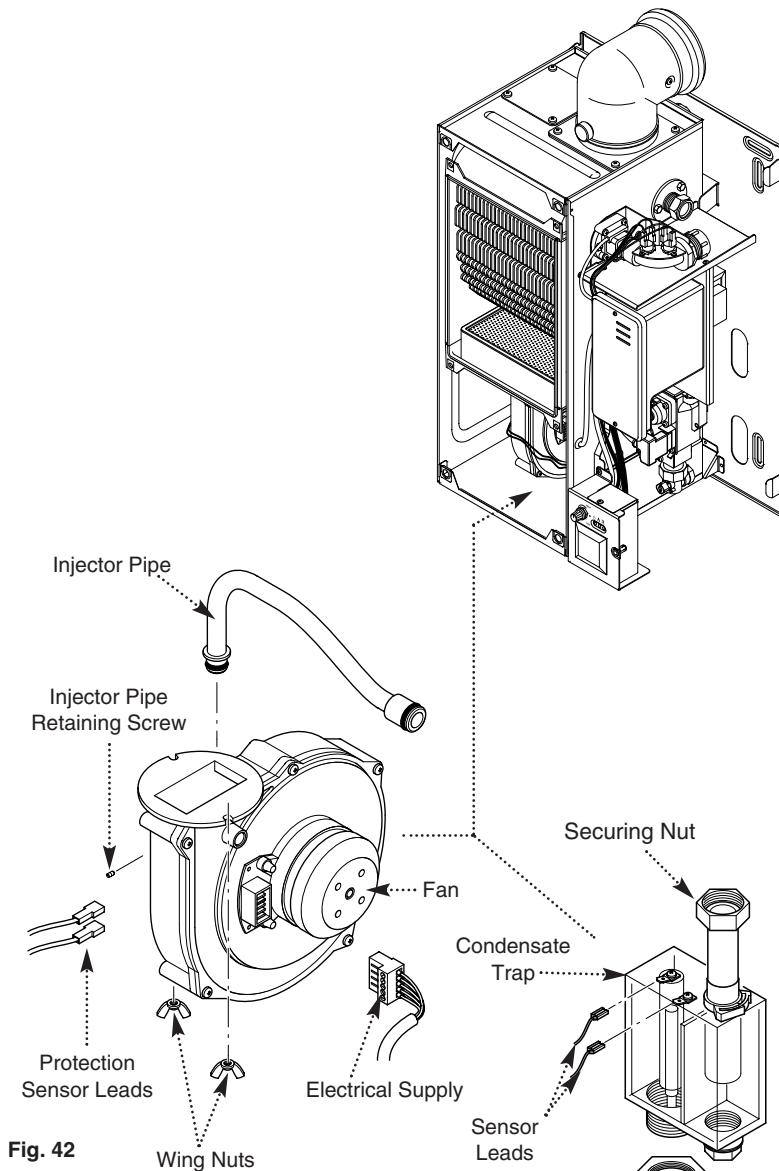

Fig. 42
- a) Disconnect the electrical leads to the fan component protection sensor (Fig. 42).
- b) Loosen the screw retaining the gas injector pipe at the venturi (Fig. 42).
- c) Undo the two wing nuts to disconnect the fan (Fig. 42).
- d) Remove the fan and disconnect the electrical supply to it (Fig. 42).
- e) Remove the gas injector pipe from the gas valve (push-fit) (Fig. 42).